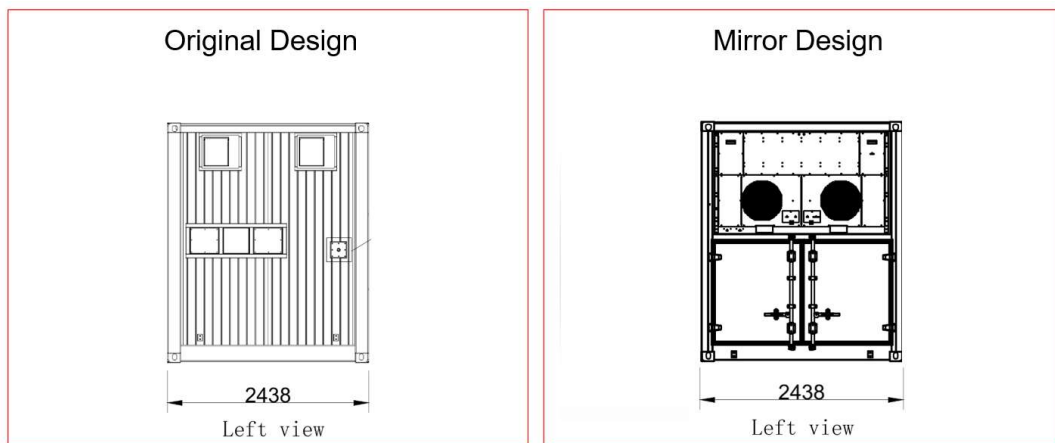

Figure 13 –The chiller mirror design
②The electrical and fire safety system device inside SolBank3.0 series are mirrored accordingly, but there is no change in device used
①Chiller mirror design (shown as figure 13), the supplier to re-provide certification(product materials, key device, performance, functionality without change)